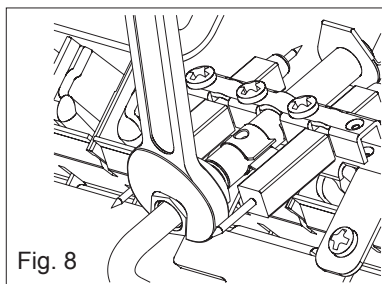

Fig. 8
- Disconnect the pilot flame tube (fig. 8)